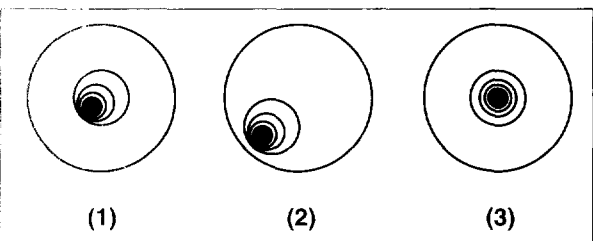

Fig. 24: Defocused star images.
2. While looking at the defocused star image, notice which direction the darker shadow is offset in the ring of light or notice which part of the ring is the thinnest (1, Fig. 24). Place your index finger in front of the telescope so that it touches one of the collimation set screws. You will see the shadow of your finger in the ring of light. Move your finger around the edge of the black plastic secondary mirror support until you see the shadow of the finger crossing the thinnest part of the ring of light. At this point, look at the front of the telescope where your finger is aiming. It will either be pointing directly at a set screw, or it will be between two set screws aiming at the set screw on the far side of the black plastic secondary mirror support. This is the set screw that you will adjust.
3. Using the slow-motion controls, move the defocused image to the edge of the eyepiece field of view (2, Fig. 24) in the same direction as the darker shadow is offset in the ring of light.
6. When you bring the image to center (3, Fig. 24) carefully examine the evenness of the ring of light (concentricity). If you find that the dark center is still off in the same direction, continue to make the adjustment in the original turning direction. If it is now off in the opposite direction, you have turned too far and you need to turn in the opposite direction. Always double check the image in the center of the field of the eyepiece.